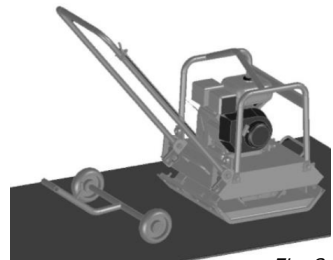

Fig. 8
1. Place the wheel kit behind the compactor (Fig. 8).